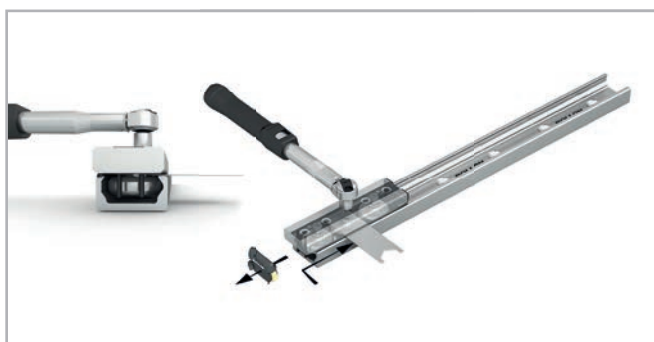

Fig. 154
- (1) Check that the rails are clean and remove the wipers to increase sensitivity for proper preload.
- (2) Place the slider in the rail. It may be necessary to align the bearings to be adjusted with those fixed, to facilitate insertion. Excessive offset may make insertion difficult. Use the flat spanner.
- (3) Use a medium threadlocking adhesive in the screws.
- (4) Lightly tighten the upper bearing screw without over-tightening. Vice versa if the screw has already been previously tightened, loosen the bearing fixing screws slightly. The bearing must be able to rotate but should not be completely free. Only adjust the eccentric bearings (without the center marked).
- (5) For NSW/NSA/NSD/NSDA series, place the slider at one end of the rail to simplify insertion of the flat key. For the CSW/CDW series, adjustment can take place at any point on the rail, if desired.
- (6) Insert the flat spanner supplied between the rail and the slider. For NSW/NSA/NSD/NSDA series take care to insert it from the end of the slider, sliding it under the side seal until it reaches the bearing to be adjusted. (Fig. 154). Engage the hexagon of the eccentric bearing